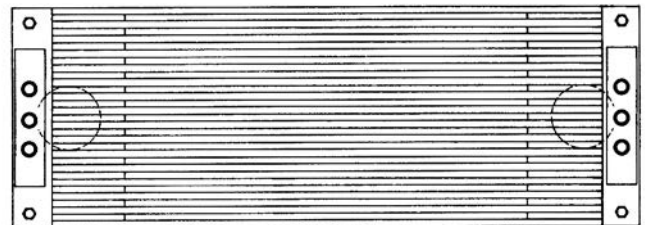

FIG. 17 Remove upper drain plug to bleed air from the system.
1. At the outlet end of the unit, remove the upper drain plug and fill the unit with cooling water. See Figure 17